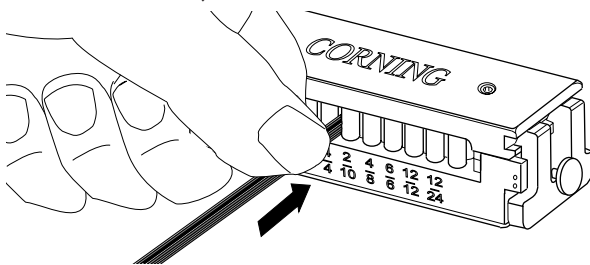

Figure 10
- Insert the ribbon into the proper channel. Push the end of the ribbon through the tool (Figure 10).